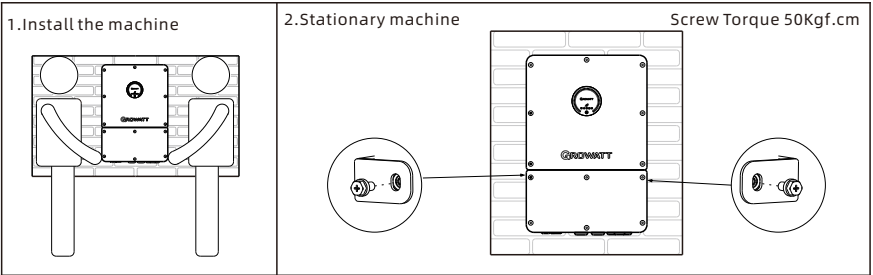

Fig 5.10 Wall-mounted installation
- 1> The installer uses both hands to lift the machine as shown in Fig 5.10 below.